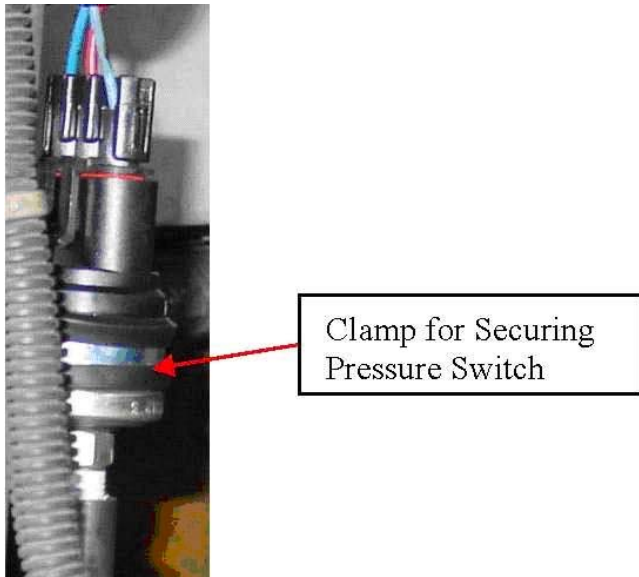

Figure 3 Clamp for Pressure Switch
- Securely attach the pressure switch to the vehicle (on cab, frame rail, etc.) (Figure 3). A clamp should be used around the pressure switch to ensure that it is securely fastened to the vehicle.